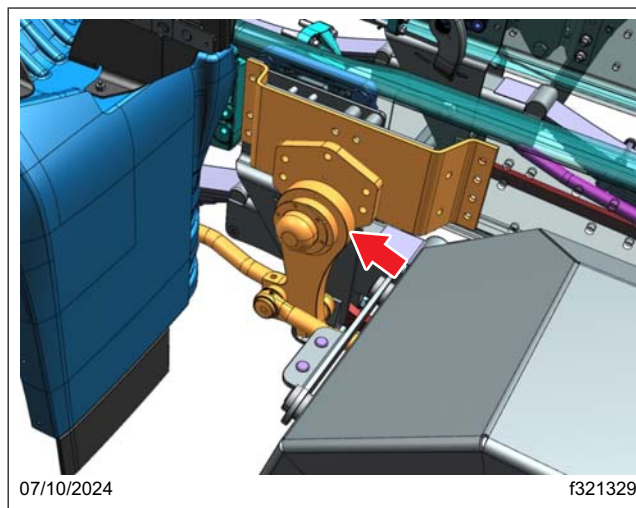

Fig. 9, Idler Arm Assembly
2. Remove the idler arm assembly as a complete unit, to access the suspension hanger. There is no need to disassemble or remove the drag links. Move the assembly outward from the frame rail and lower it out of the way to gain access. See Fig. 9.